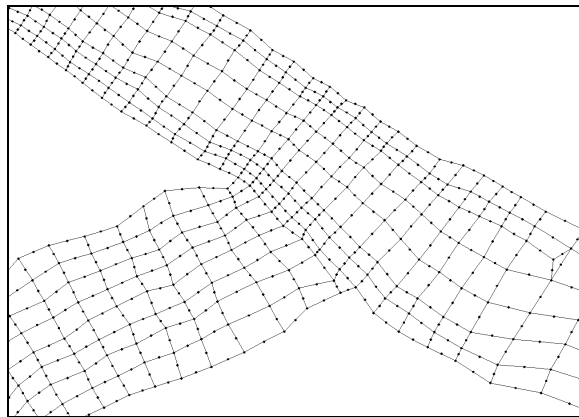

Figure 6-1. The area about which to zoom for the film loops.
use vector data sets to trace the path that particles of water will follow through the flow system. Only the visible portion of the mesh will be included in the film loop when it is created. For this tutorial, zoom into the portion of the mesh shown in Figure 6-1. To do this:
3. Click and drag the mouse to create a box about the area in Figure 6-1.